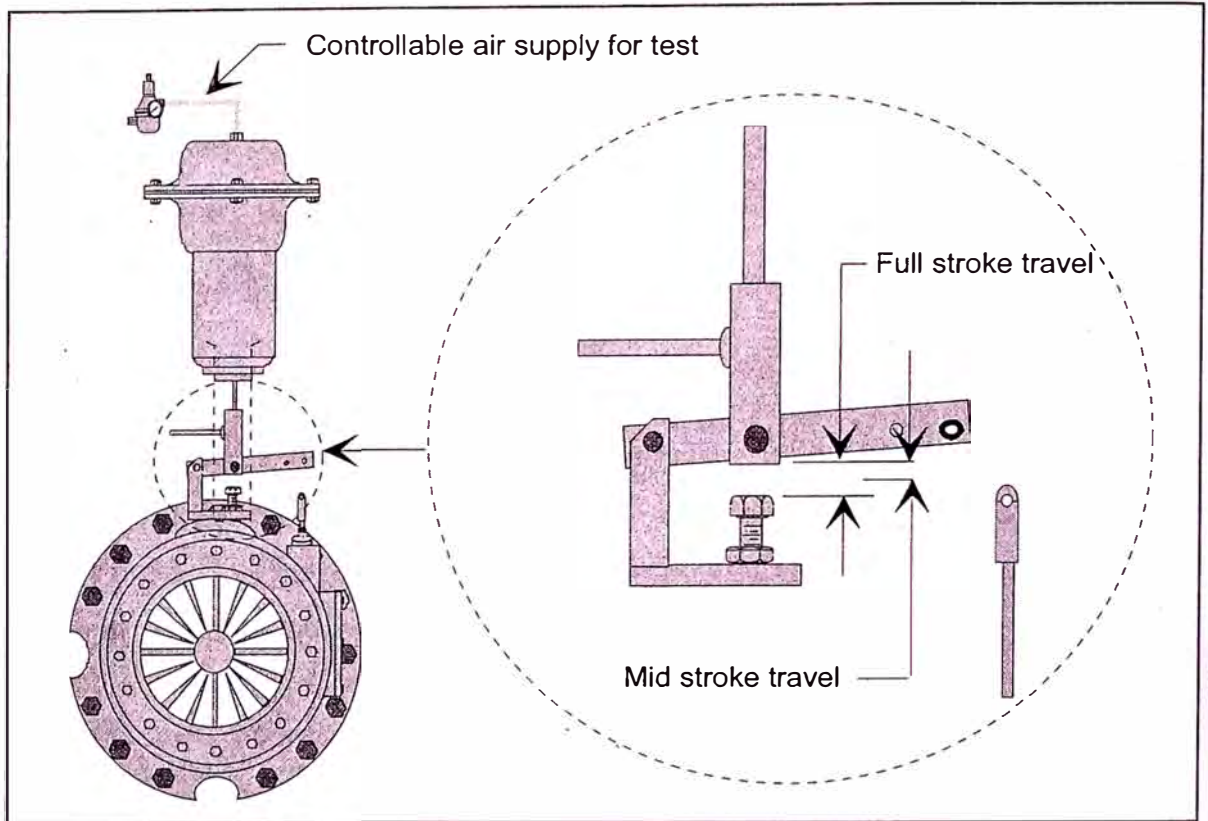

Figure 1-3. Adjustment of stroke distance
1. Connect a regulated air supply (maximum of 40 PSIG) to the top of the actuator. Check the vane operating actuator rod to see that it is disconnected from the attachment bar. With 0 air pressure the actuator is at top of stroke. Figure 1-3 shows the clevis at the top of stroke.